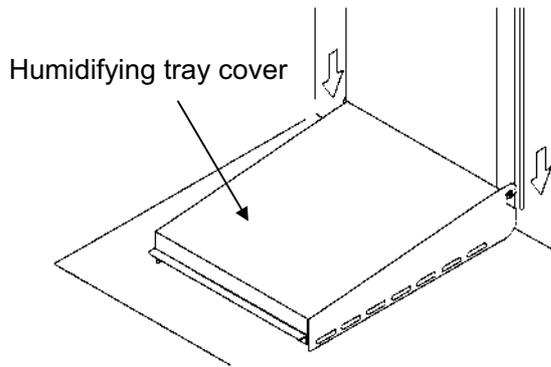

Fig.5
6. Replace the duct. Place the humidifying tray, then cover the tray with the humidifying tray cover as shown in Fig. 5